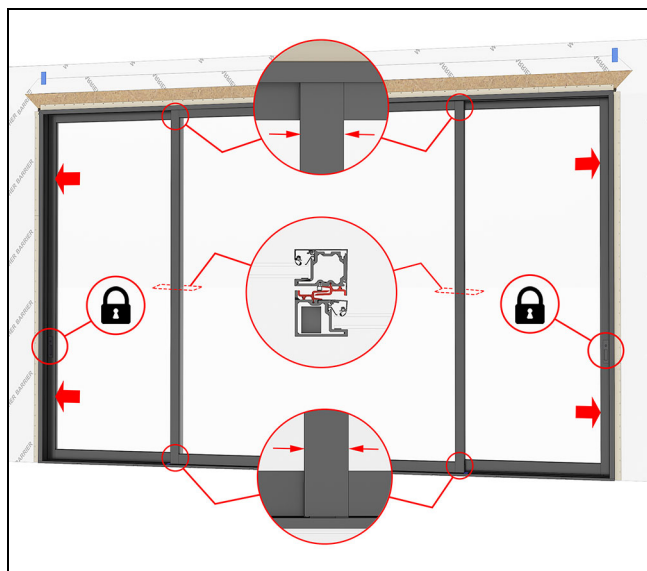

Figure 152 XOX shown
6. Close and lock the operator panels. The interlocks should engage and the stationary panel may move slightly. If the stationary panel did not move, firmly slide the stationary panel opposite the closing direction of the operator panel to fully engage the interlocks. See Figure 152.